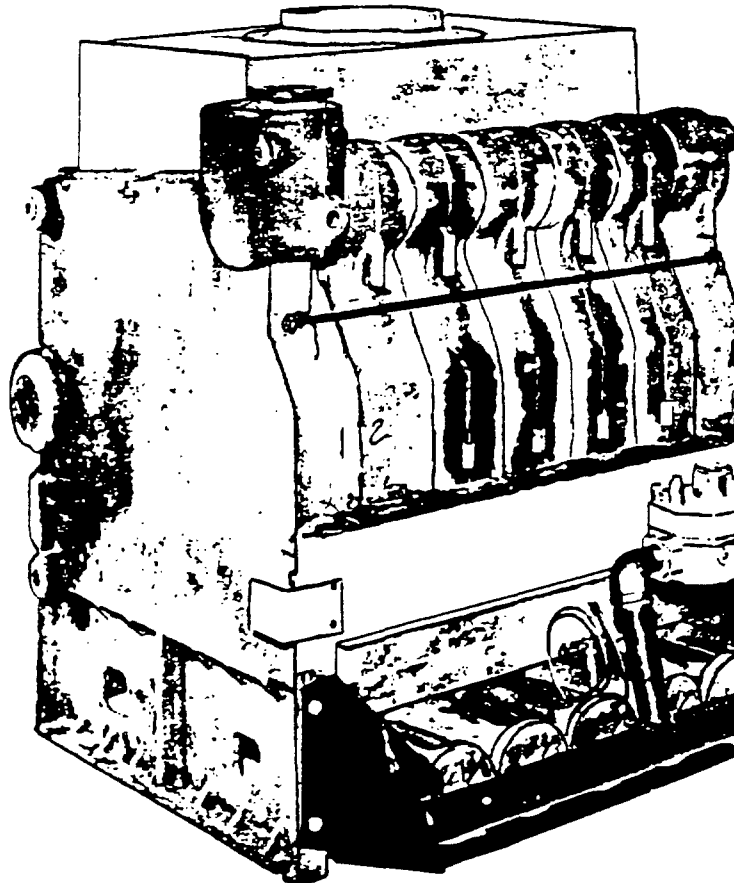

FIG. 7
1. Install the four jacket angle clips to the front and rear plates with #8 x 3/8" sheet metal screws (See Fig. 7).